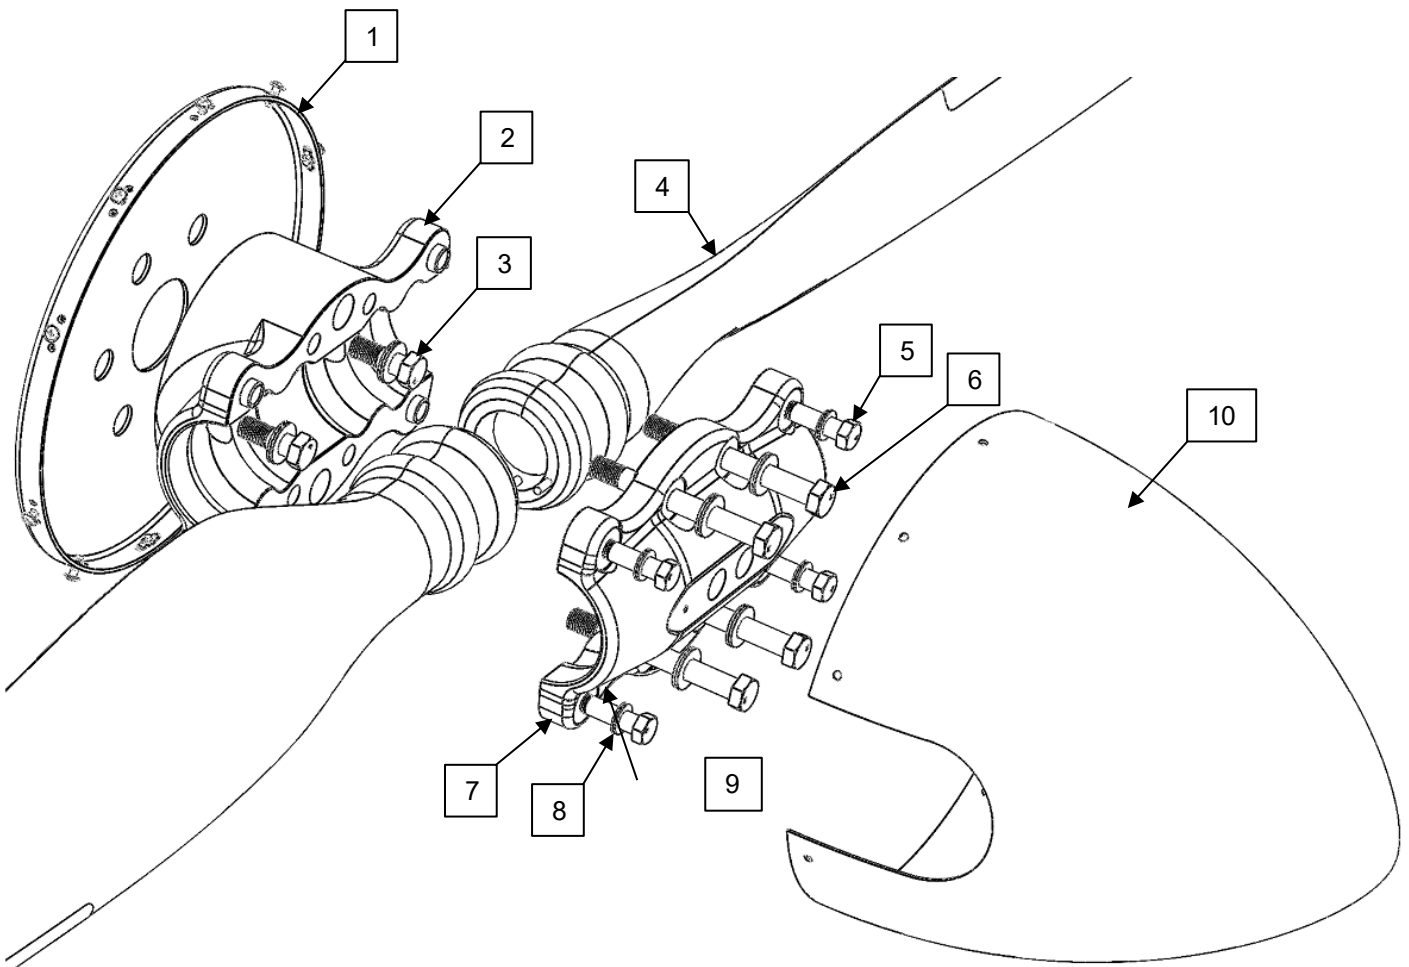

Figure 1: Propeller Assembly
A-1608 and A-1889 not included in Figure 1.
1. Ensure the aircraft magneto switch is in the "OFF" position and that both magnetos are grounded any time the propeller is handled. Chock the aircraft wheels to prevent movement. Clean dirt and oil residue from the engine flange. Refer to **Figure 1** for views of the two-piece hub and blade exploded assembly.
2. Zero the level/protractor on the engine flange (If digital level/protractor is being use make sure it does not turn off during the installation process). Place rear spinner bulkhead (if used) and the hub mount, as shown in **Figure 1**, on the engine flange. The hub **MUST** sit flush on the engine flange.
3. Refer to **Figure 1** for views of the two-piece hub and blade exploded assembly. Using two NL1/2SP Nord-Lock mount bolt washers and the two inner mount bolts (1/2-20 x 2"), secure the hub mount half and rear spinner bulkhead (if used) to the engine flange. Using a calibrated torque wrench, torque the two inner mounting bolts evenly using an alternating pattern. Tighten the bolts in several increments up to full torque, such as 50%, 75%, and full torque. See **Table 1**.